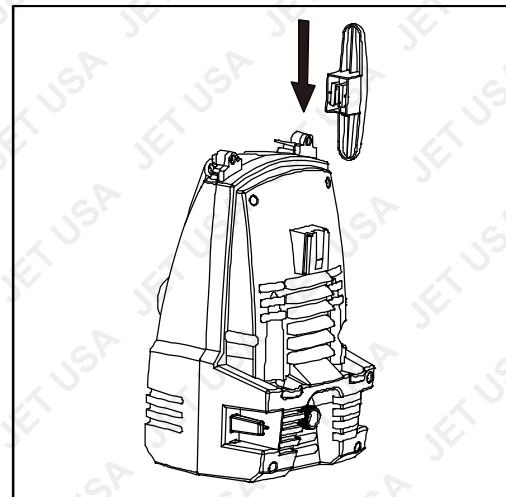

Figure 1b
- Align holes on the bottom of the pressure cleaner as shown and tighten the 2 screws using a screwdriver (figure 1b).